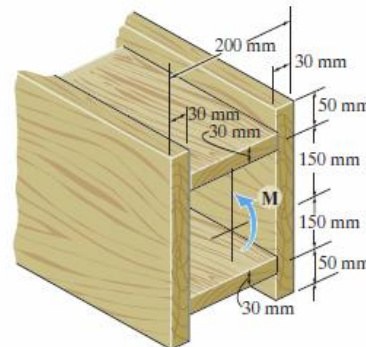

Fig. 3
3. If the beam is subjected to a bending moment of  $M = 10 \text{ kNm}$ , determine the maximum bending stress in the beam. [Fig. 3]